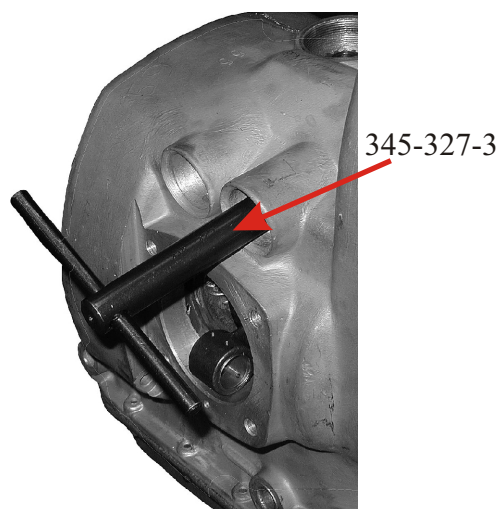

Fig. 10
- Remove the camshaft. Make use of mandrel 345-327-3, inserting it into the hole of removed guide of the left cylinder intake valve. By bringing close the camshaft cam, press out the camshaft with a turn of the mandrel (Fig. 10).